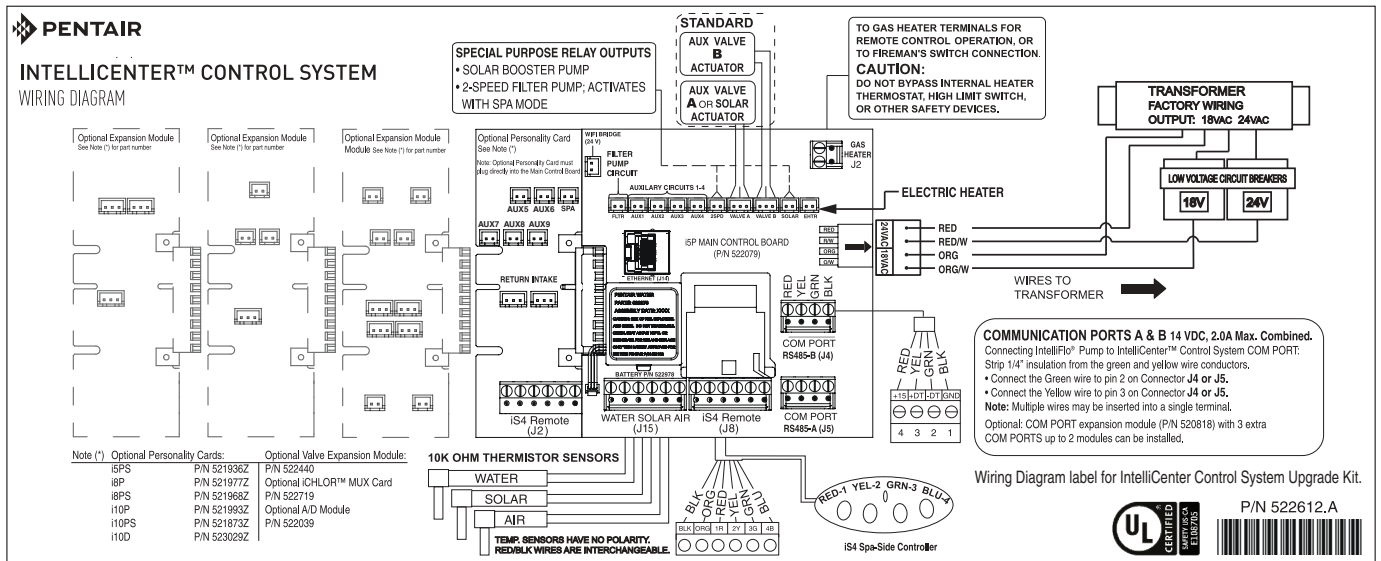

Figure 9. IntelliCenter Control System Circuit Board (with optional Expansion Boards shown)
3. Reconnect all of the low voltage connections on the main circuit board. See Figure 9 on page 9.